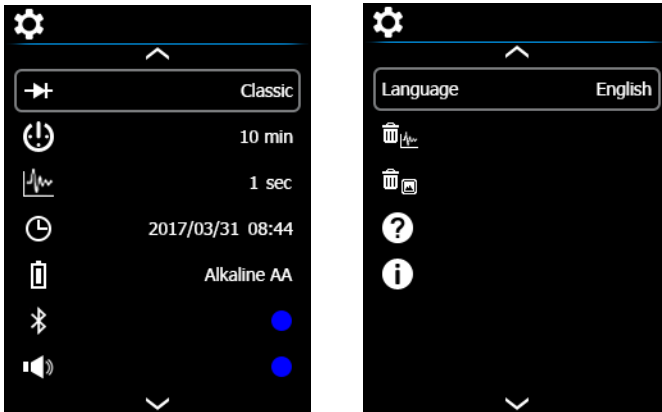

Fig. 7-1 General Settings Menu
2. Scroll to the  icon and press **OK** to open the Settings menu (see Fig. 7-1)